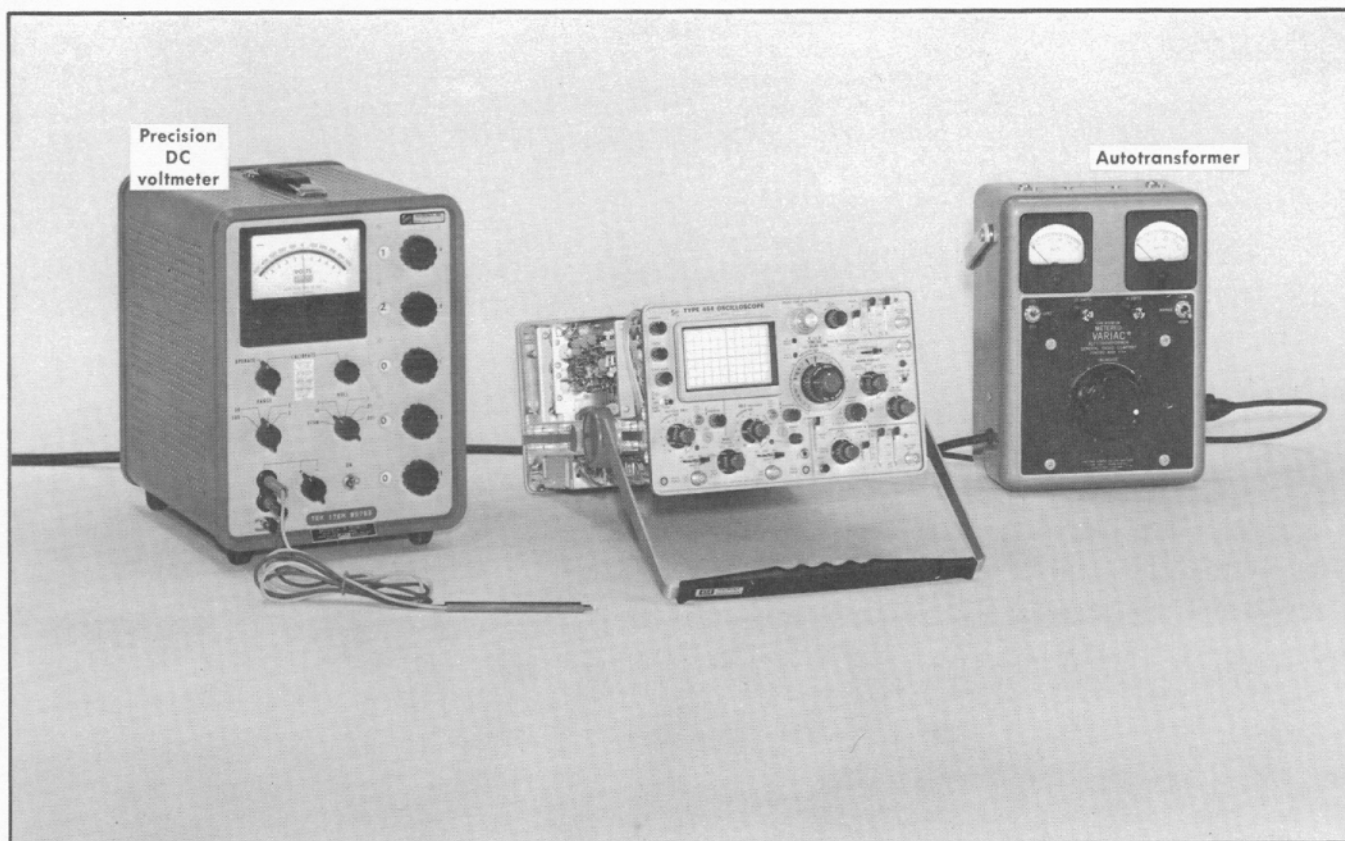

Fig. 6-3. Initial test equipment setup for steps 1 through 6.
①
- Test equipment setup is shown in Fig. 6-3.